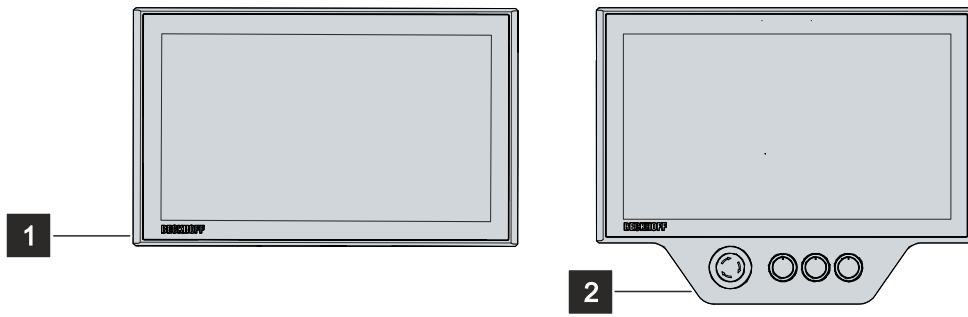

Fig. 1: CP32xx-1600\_with and without push button extension
For explanations of the push button extension and the functions, refer to the manual C9900-G05x. Figure 1 shows an example of a Panel PC without (1) and with (2) push button extension.